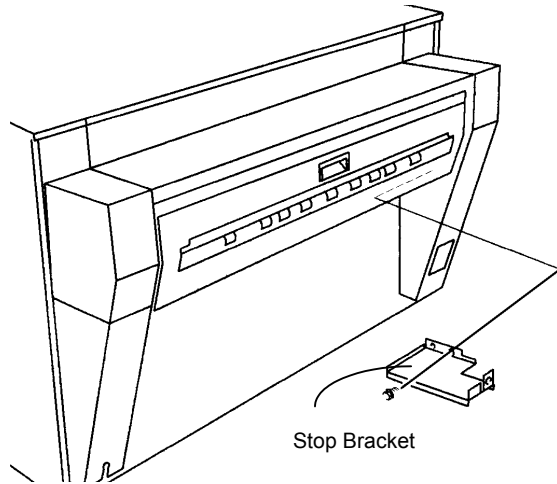

Figure 4. Installing the Stop Bracket
9. (Figure 4): Install the Stop Brackets on the right and left sides of the 721P/8855 rear side covers using the existing top two holes that were used to attach the Support Arms for the 30 sheet catch tray.